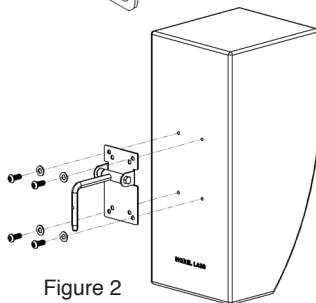

Figure 2
Step 2: Remove the four screws from the back of the speaker. Attach the speaker mount assembly to the speaker in the indicated orientation and reinsert all of the screws. Tighten screws permanently (Figure 2).
Step 2: Remove the four screws from the back of the speaker. Attach the speaker mount assembly to the speaker in the indicated orientation and reinsert all of the screws. Tighten screws permanently (Figure 2)